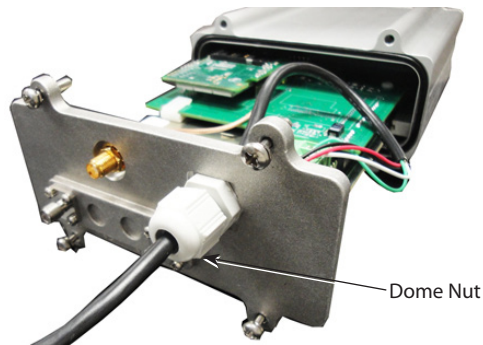

Figure 12: Cable Gland Dome Nut
8. Hand-tighten the cable gland dome nut on the outside of the receiver by turning it clockwise (see Figure 12). The dome nut seal must be in firm contact with the power / communication cable outer jacket.